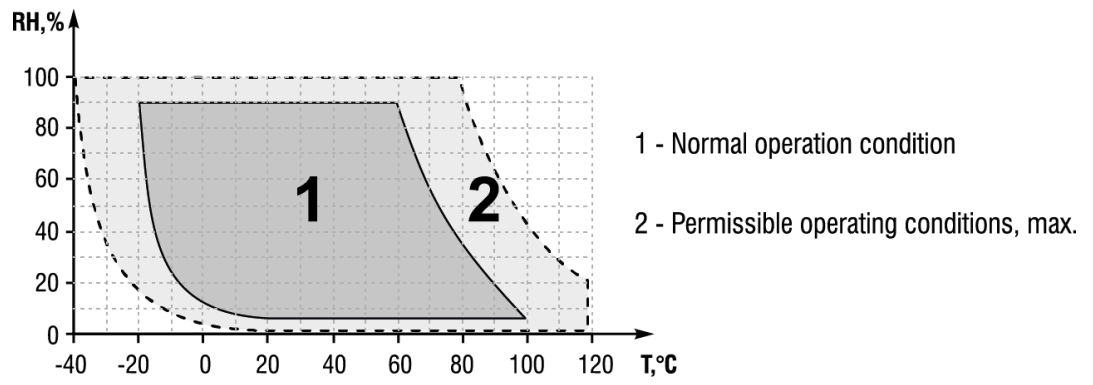

Fig. 2.1 Operating conditions
Operating conditions*	See Fig. 2.1
* Normal operating conditions of the device are shown in Fig. 2.1.